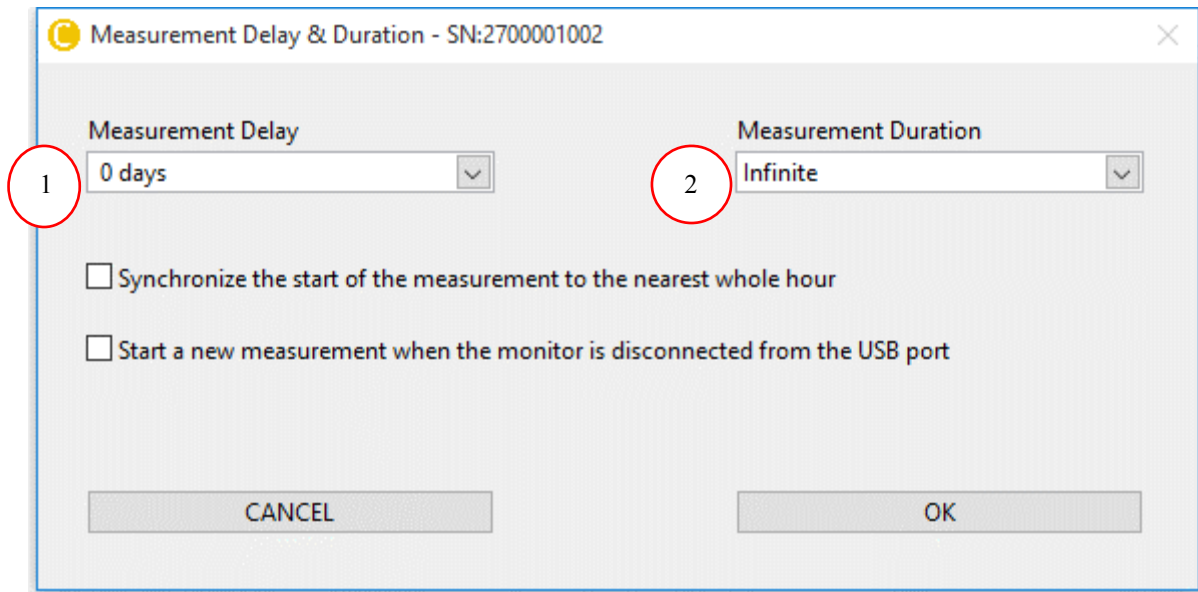

Figure 4-41: Measurement Delay & Duration Window
1. Measurement Delay & Duration : Window pops up as shown in Figure 4-41. Delays the measurement for the time set. Locks the monitor during the measurement duration. During the measurement duration the monitor acquires data but remains non responsive to any button push/interface